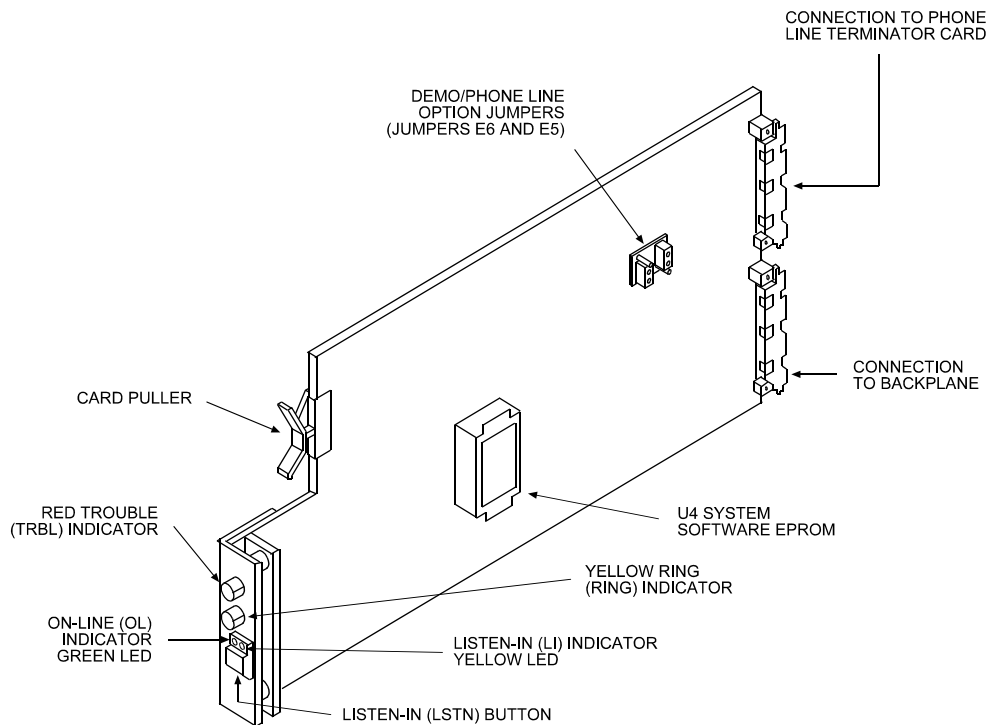

Figure 5-1: Digital Telco Line Card (6540 or D6541)
2. Make sure the Demo/Phone Line option jumpers on the line card are set appropriately (see Figure 5-1).